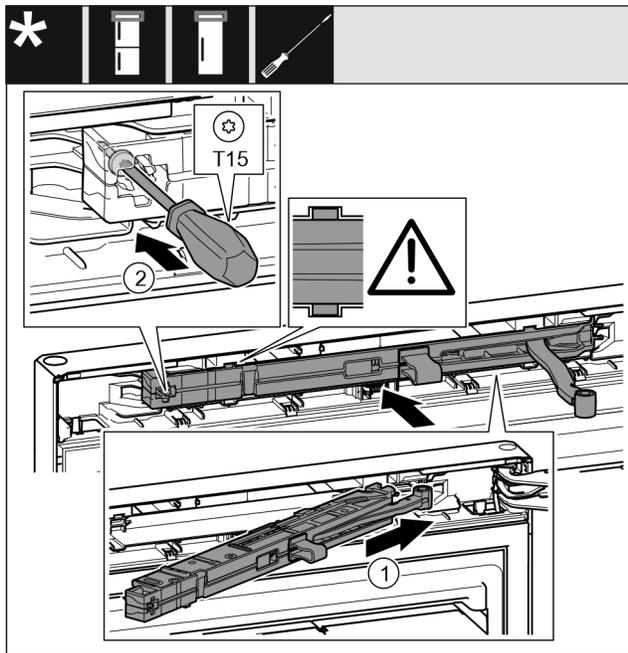

Fig. 47
- ▶ Slide the soft stop mechanism on the bearing bracket side at an angle into the recess as far as it will go. Fig. 47 (1)
- ▶ Tighten the screw using a T15 screwdriver. Fig. 47 (2)